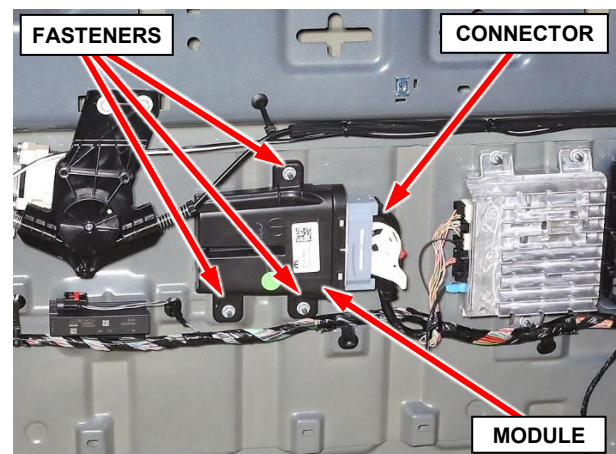

Figure 18 – Trailer Tow Module
12. Disconnect the wire harness connector from the trailer tow module (Figure 18).
13. Remove the three fastener nuts from the trailer tow module (Figure 18).
14. Remove the trailer tow module from the vehicle (Figure 18).
17. Install the **NEW** trailer tow module to the vehicle and tighten the three fastener nuts securely (Figure 18).
18. Connect the wire harness connector to the trailer tow module (Figure 18).